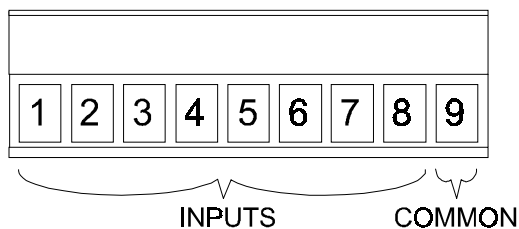

Figure 2-17 GPI connector pinout.
Dry (i.e. switch) or electronic (i.e. open collector) contact closure should be sufficient. The closure can be either momentary (10 ms minimum duration) or continuous. Connect the desired input (1-8) through the contact closure to common (9). See Figure 2-17 for more information.